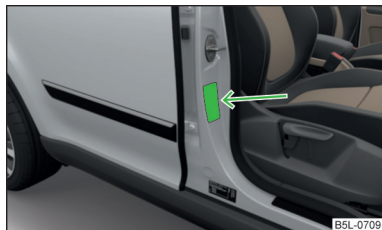

Fig. 149
- On the B-column on the front passenger side » Fig. 149. The sticker is visible upon opening the front passenger door.